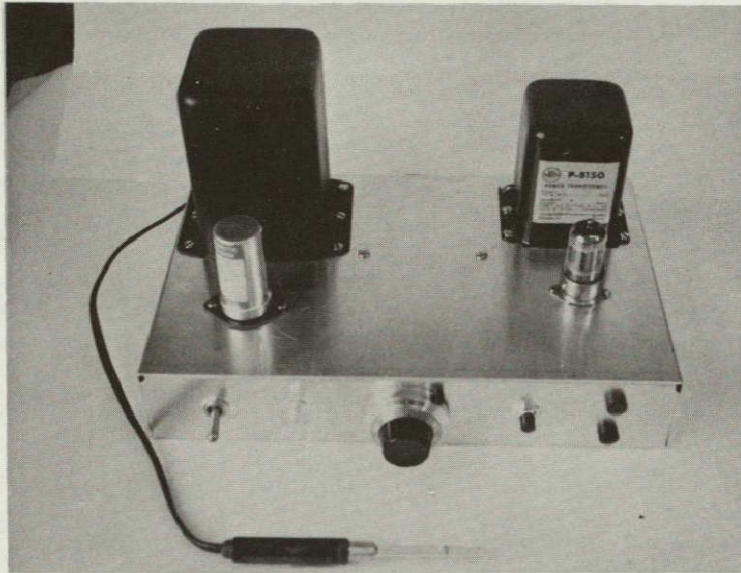

Figure 1.- Power supply and low-pressure mercury lamp.
- Figure 1. Power supply and low-pressure mercury lamp.